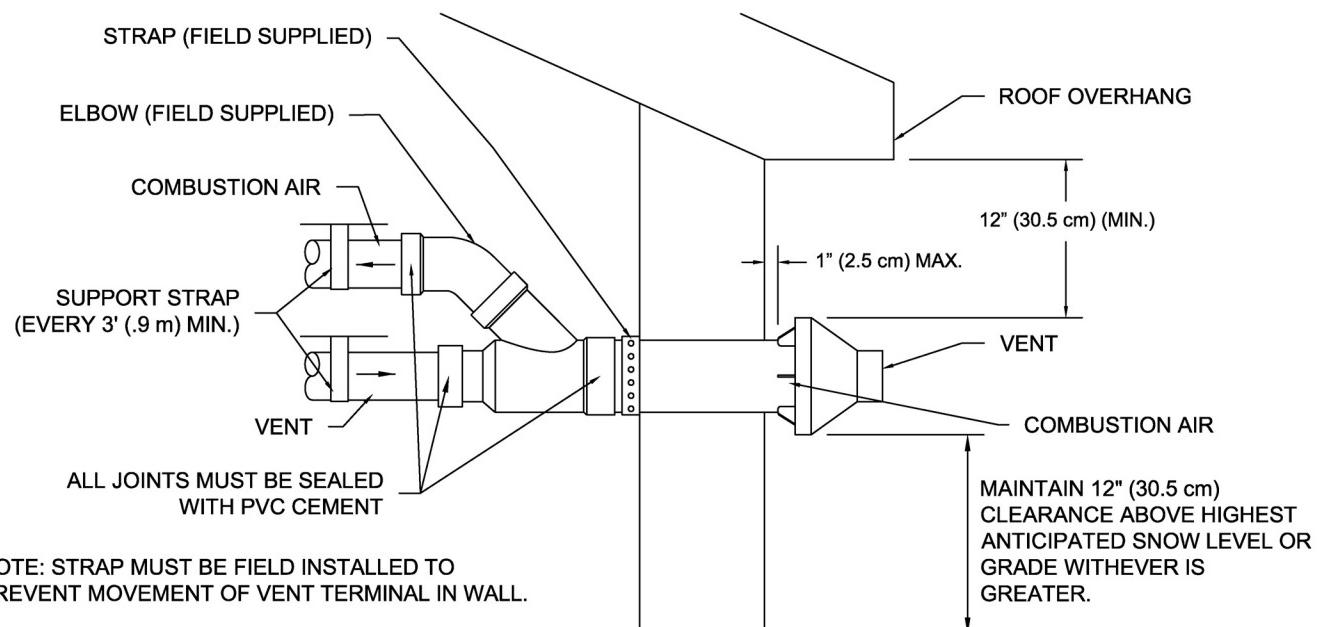

Figure 23A. Concentric Vent Side Wall Attachment
7. Secure assembly to structure as shown in Figure 23A. Ensure clearances as shown in Figure 23A.
8. Cement water heater combustion-air and vent pipes to concentric Y fitting termination assembly. See Figure 23A & 23B for proper pipe attachment.